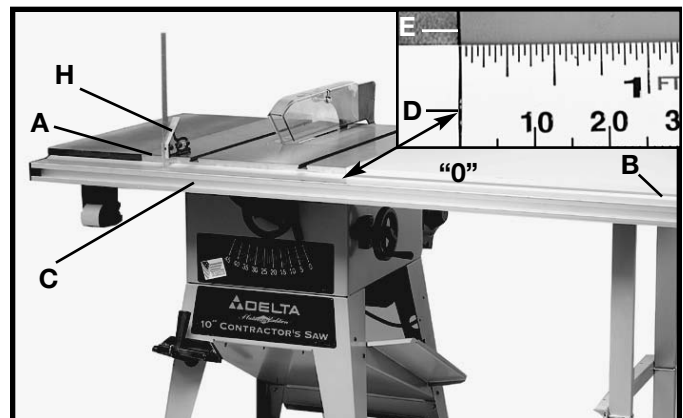
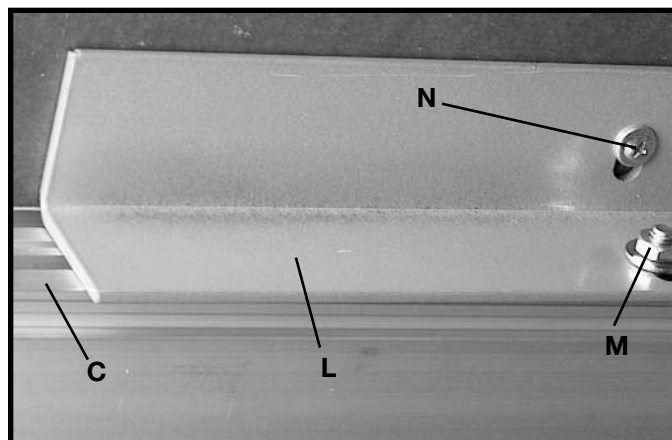

Fig. 62
Fig. 63
6. Adjust the guide rail (C) Fig. 62, parallel with the saw table surface by placing a square (H) on the saw table at both the left front ends of the saw table (A) and the right front end of the extension table (B), with the rule of the square against the flat surface on top of the guide rail. The guide rail (C) Fig. 62, can be adjusted up or down slightly at either end. After you are certain the guide rail is parallel with the table surface, firmly tighten the two hex nuts that fasten the guide rail to the table. **Note:** Make sure "0" (D) on the unifence scale is aligned with the right edge of the saw table (E).
7. Move the square (H) Fig. 62, to the end of the Unifence table and check to make certain the same distance is kept from the top surface of the extension table (K) to the top surface of the guide rail (C). Move the front table support (L) Fig. 63, against the guide rail (C), and fasten with 1/4-20 nut and flat washer (M). Tighten two wood screws, one of which is shown at (N) Fig. 63, that fasten the Unifence table to the guide rail.